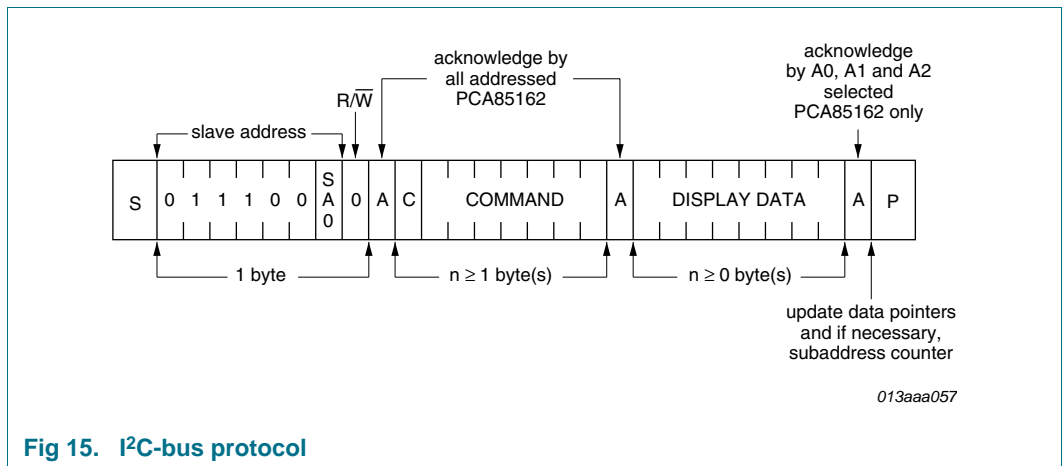

Fig 15. I2C-bus protocol
The I2C-bus protocol is shown in Figure 15. The sequence is initiated with a START condition (S) from the I2C-bus master which is followed by one of two possible PCA85162 slave addresses available. All PCA85162 whose SA0 inputs correspond to bit 0 of the slave address respond by asserting an acknowledge in parallel. This I2C-bus transfer is ignored by all PCA85162 whose SA0 inputs are set to the alternative level.